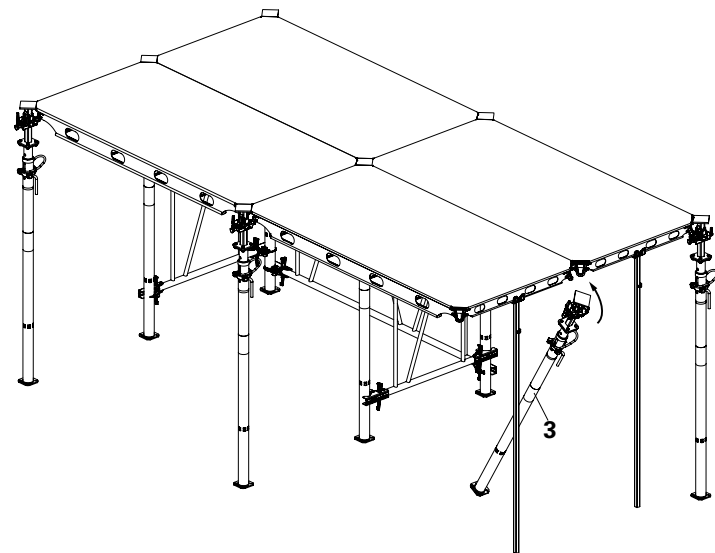

Fig. A4.12
6. Insert the prop (**3**) into position with the wedge oriented in shorter direction for easy deshuttering. (Fig. A4.12)